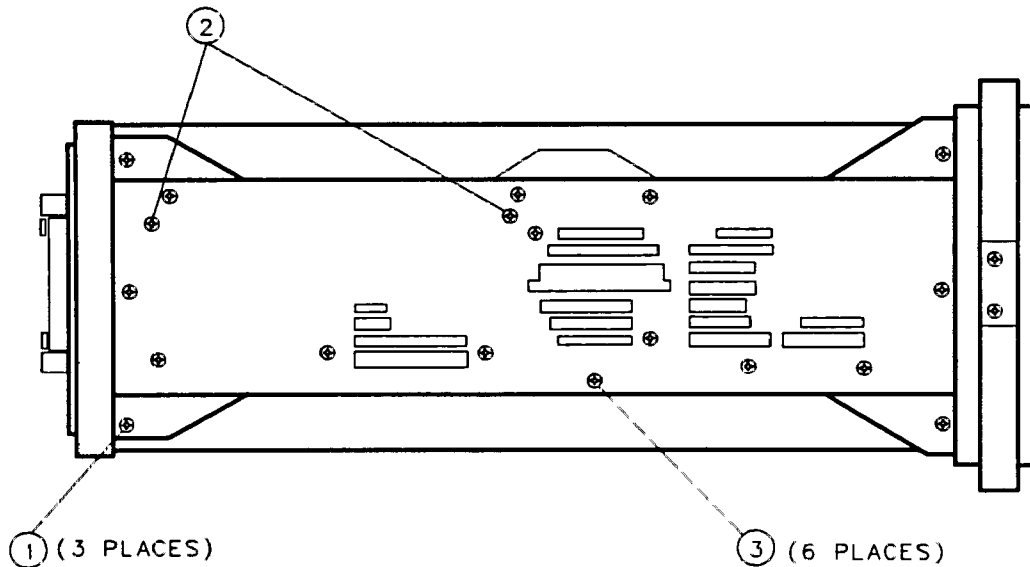

Figure 3-30. Side Frame Mounting Screws
2. Attach the left side frame to the deck and rear frame. See Figure 3-30.